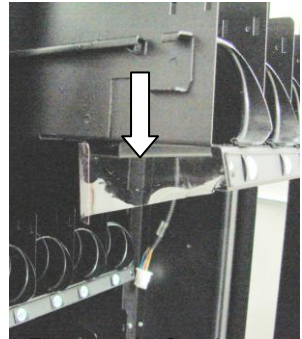

Figure 7 – Air Curtain
8. Install air curtain on bottom side of tray four (Fig. 7)
8. Remove air curtain from bottom side of tray four (Fig. 7)